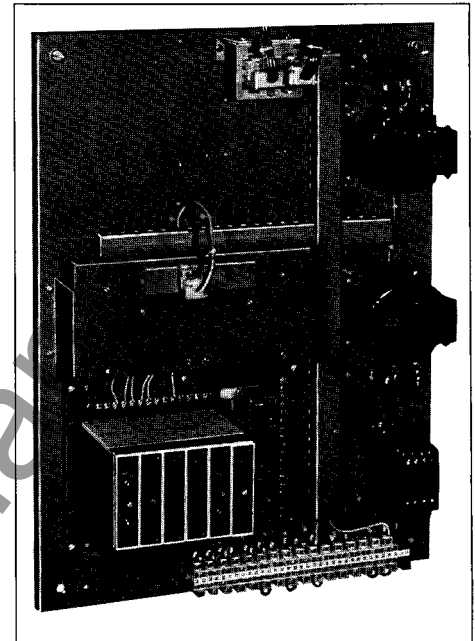

Fig. 2. Intelligence Panel
- 2) The solid-state intelligence panel (Fig. 2) provides the intelligence/supervisory circuits which constantly monitor the condition of the power sources thus providing the intelligence necessary for the operation of the transfer switch.